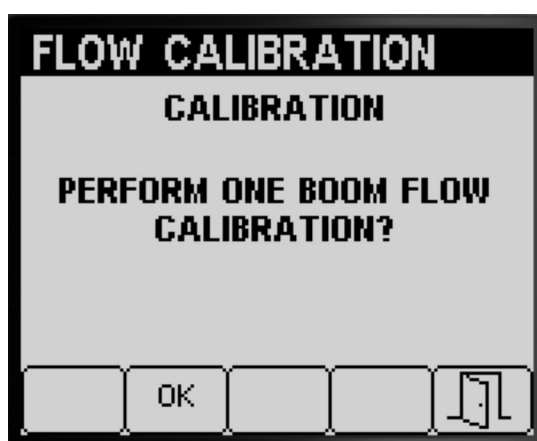

Figure 59
If you completed a 3-sprayer-section calibration and 2-sprayer-section calibration, the Infocenter prompts you for a 1-sprayer-section calibration (Figure 59), perform 1 of the following:
- If you do not need to perform the 1-sprayer-section calibration, press button 5 to return to the Calibrate screen (Figure 59).